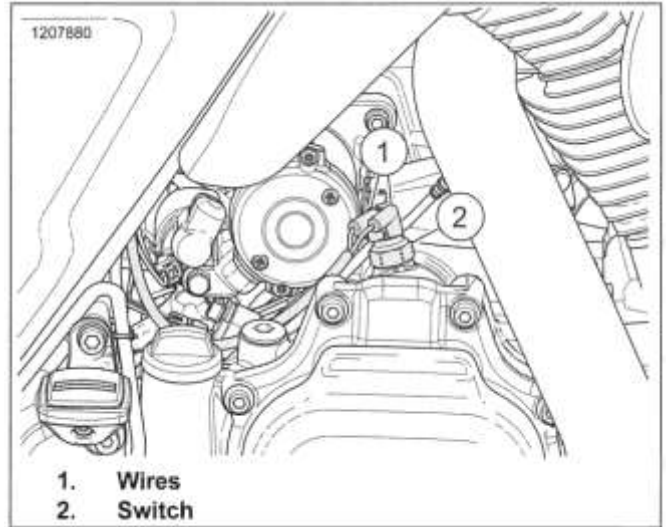

Figure 8-40. Neutral Indicator Switch
1. See Figure 8-40. Remove connectors (1) from neutral switch posts.
2. Remove neutral switch (2) and O-ring.
2. See Figure 8-40. Install **new** switch (2) and O-ring. Tighten.